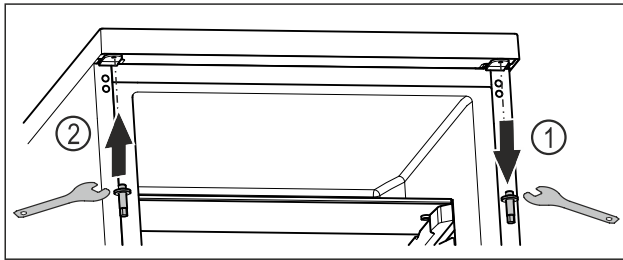

Fig. 14
- Unscrew the upper bolt with an Allen key. Fig. 14 (1)
- Tighten the bolt on the opposite side with an Allen key. Fig. 14 (2)